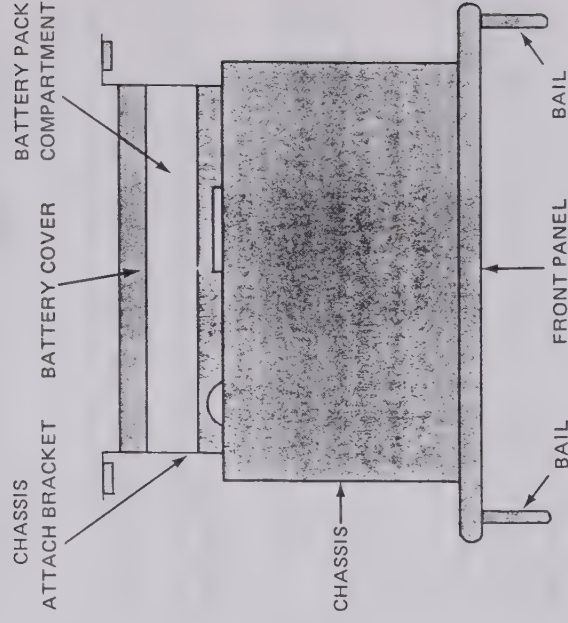

Figure 2-2
3. Carefully place the chassis on its bails so that the bottom of the chassis is facing up. (See Figure 2-2.)